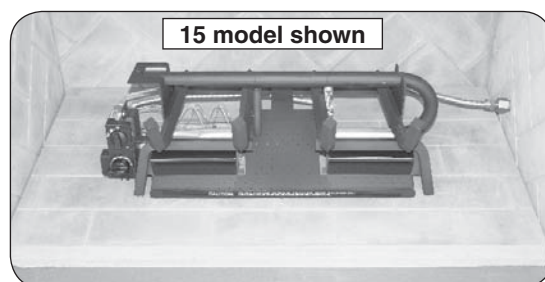

Fig. 18-2 Center burner in fireplace
3. Place the burner system in the fireplace. Center the burner in the fireplace. See Fig. 18-2.